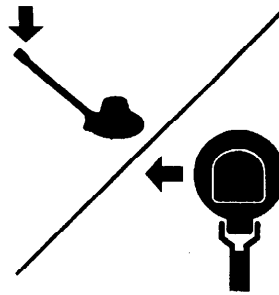
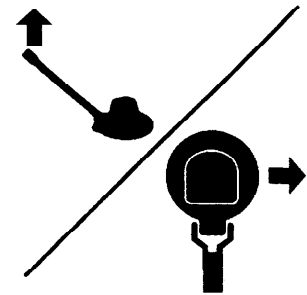

Fig. 5
Fig. 6
5. To move left: Slightly lower handle and machine will move left (Fig. 5). To move right: Slightly raise handle and machine will move right (Fig. 6). Work machine with a side to side motion when operating.